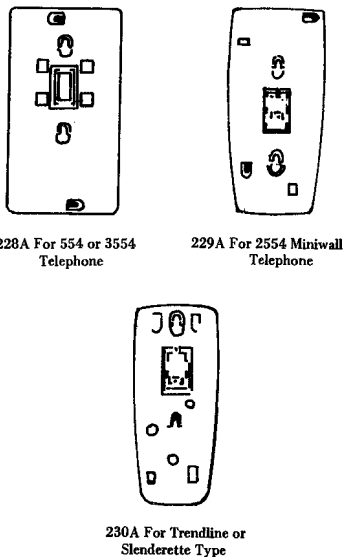

FIGURE 7. Adapters for Wall Telephones
2.09 Wall Telephone Adapters (Figure 7): Wall telephone adapters mount on the baseplate of standard wall-type telephone sets to adapt them for use with the miniature jack. All adapters have a self-aligning plug with four spade-tipped leads from each plug terminal to connect the plug to the telephone set circuitry. The adapters also have two keyholed slots which correspond to the mounting lugs on the jack cover assembly to permit installation or removal of the set.